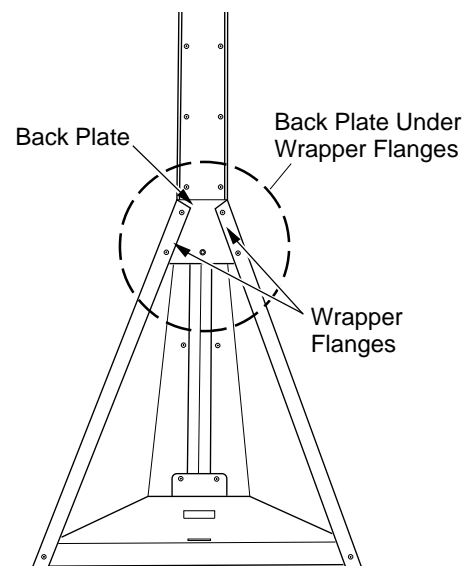

Figure 5 - Back Plate Location
5. Insert back plate up through the base and wrapper assembly and attach to left and right wrappers with 4 screws provided (see Figure 5). The back plate will be under the wrapper flanges as shown in Figure 5.